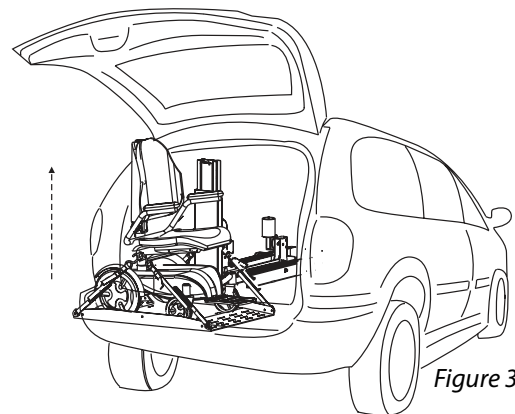

Figure 3-4
4. Raise the Chair. Double-check that the chair is secured properly on the platform. While holding the hand control, stand to the side and away from the lift. Press the "UP" button. *[Figure 3-4]*